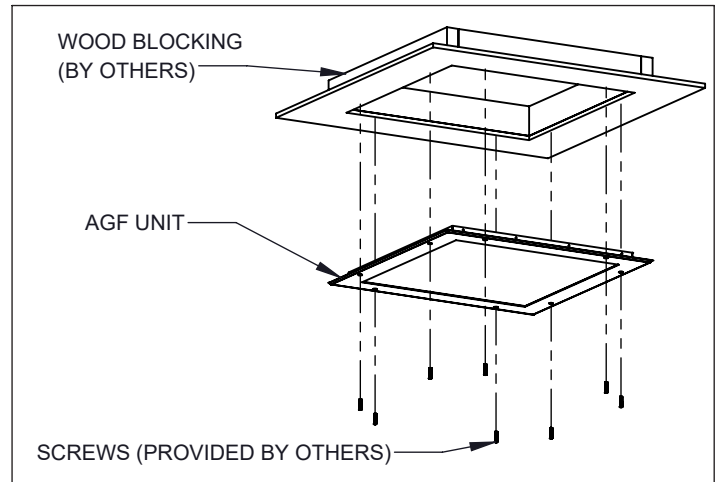

Figure 2
2. Ensure wood blocking is secured to structure before raising unit into ceiling/wall. (Fig. 2)